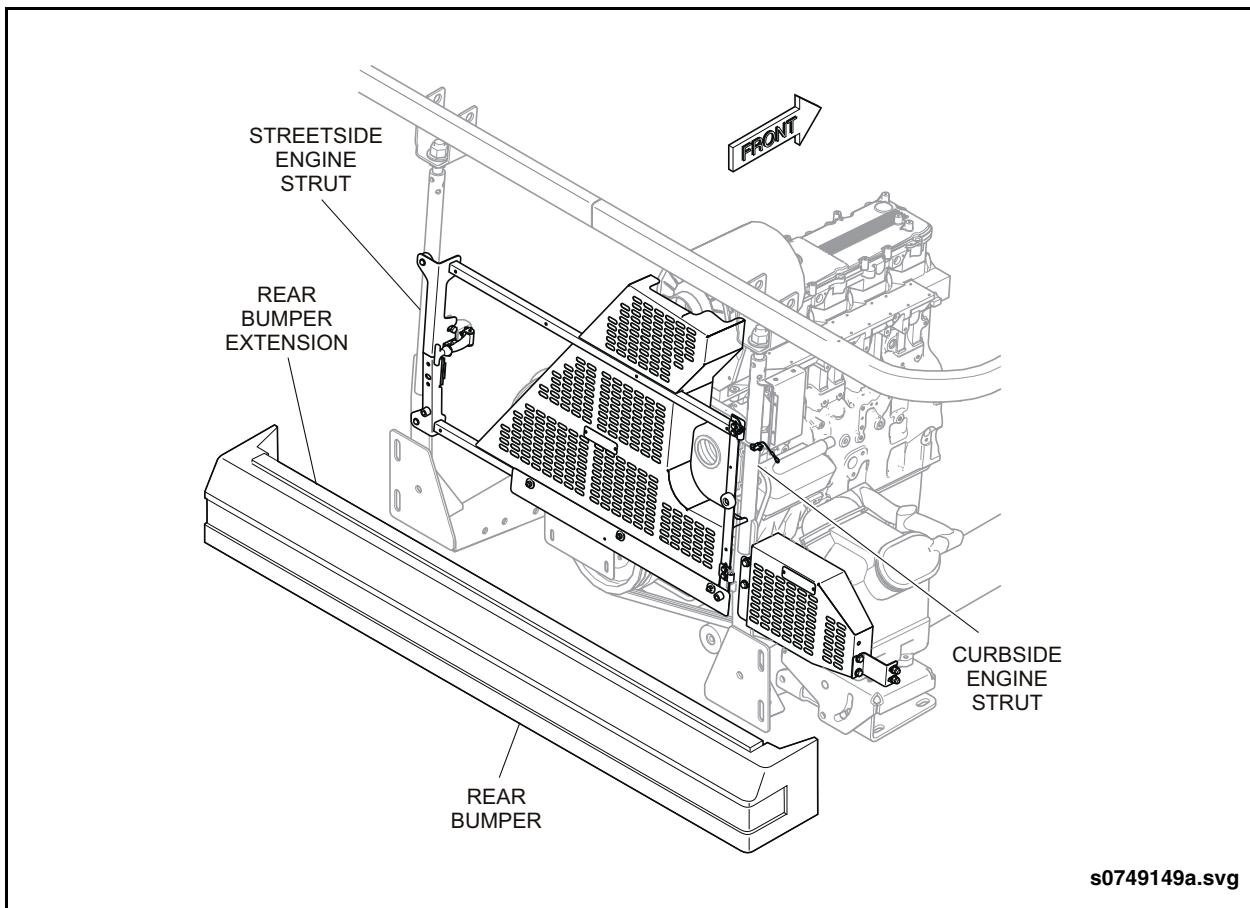

Fig. 4-3: Bumpers & Belt Guards
5. Unlatch the belt guard door and swing it open. See "Fig. 4-3: Bumpers & Belt Guards" on page 6.